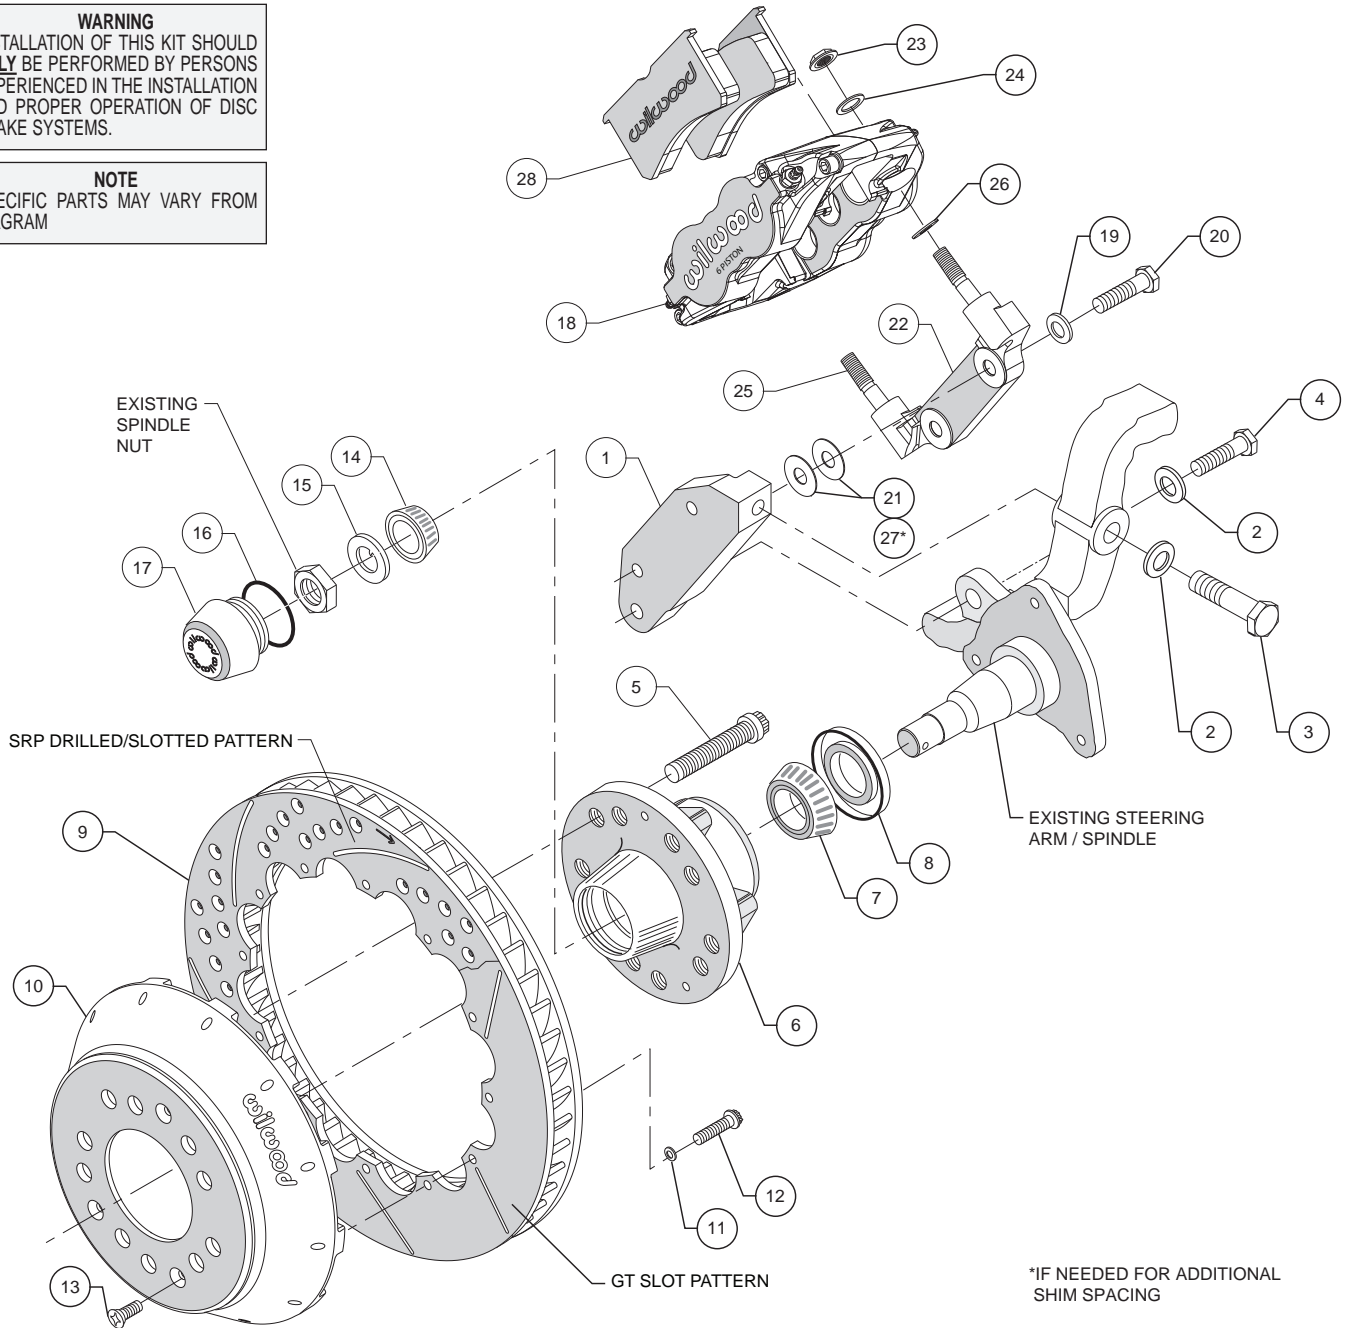

Figure 1. Typical Installation Configuration
- Mount the radial mount caliper bracket (22) to the first "flat" caliper mounting bracket (1) from the far side using washers (19) and bolts (20), as shown in Figure 1. Initially place two .030" thick shims (21) between the two brackets (1 and 22). Temporarily tighten the bolts.
- NOTE:** This kit contains distinct right and left hand calipers that must be mounted in a specific direction, as described below. Lubricate the caliper mounting studs (25) with lightweight oil. Initially place one .035" thick shim (26) on each stud as shown in Figure 1. Mount the caliper (18) onto the bracket (1) using lock nuts (23) and washers (24), Figure 1. Ensure that the caliper is mounted so that the largest pistons are at the rotor exit end of the caliper, in relation to the direction of rotor rotation. Temporarily tighten the lock nuts and view the rotor through the top opening of the caliper. The rotor should be centered in the caliper. If not, adjust by adding or subtracting .030" shims (21), or add .015" thick shims (27), as necessary between the radial mount bracket (22) and the flat bracket (1). Always use the same amount of shims on each of the two mounting bolts. Once the caliper alignment is correct, remove the bracket mounting bolts (20) one at a time, apply red *Loctite*[®] 271 to the threads, and torque to 42 ft-lb.